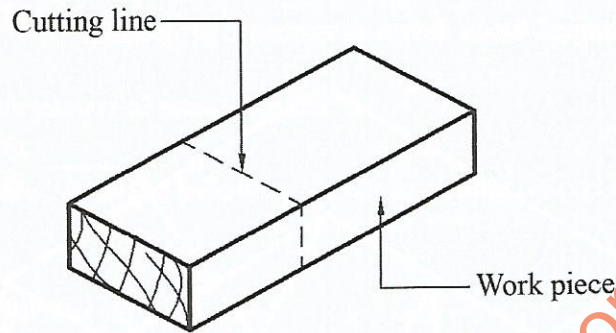

Figure 2
- (b) Outline the procedure of cutting the work piece marked as shown in **Figure 2** using a hand saw. (3 marks)